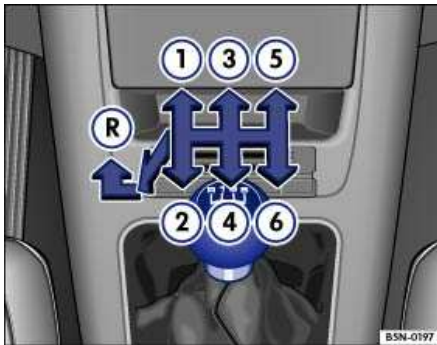

Fig. 2 Center console with 6-speed manual transmission.
- Press the shift lever down and to the left, then forward into Reverse gear (R) as shown on the shift knob ⇒ Fig. 2.